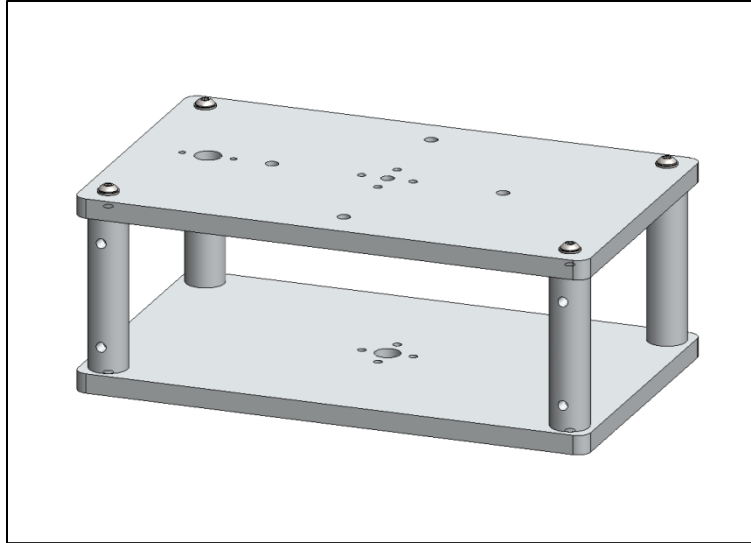

Figure 4.2 – Aligned plates and posts assembly
- Figure 4.2 shows how posts with integral bosses are used in the assembly.